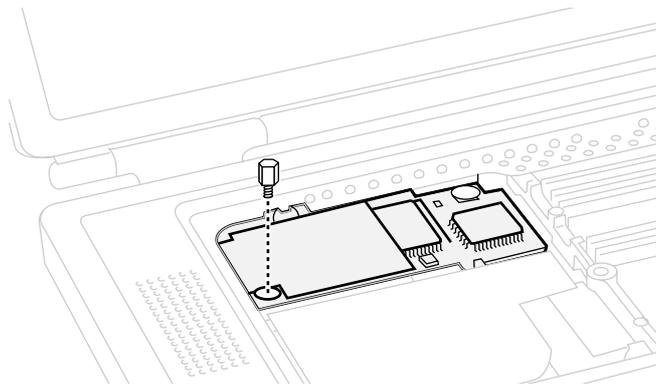

Figure 6
1. Locate the modem and remove the 5 mm hexnut screw (**Figure 6**).